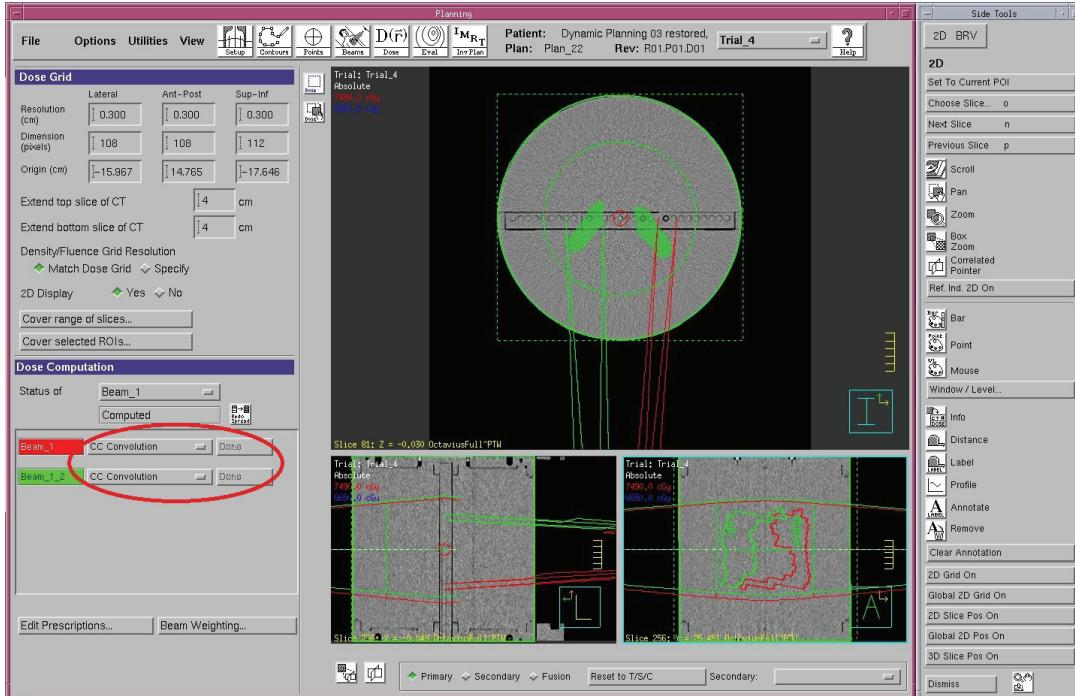

Fig. 4.8 Dose calculation
4. Calculate dose for the beams (Figure 4.8).